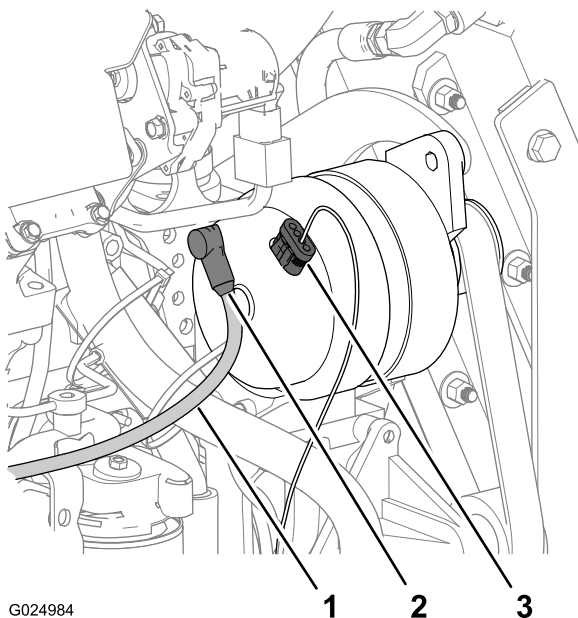

Figure 122
1. At the alternator, slide the boot off the terminal and stud at the back of the alternator (Figure 122).
3. Remove the 4-pin connector for the voltage-sense wire from the 4-pin connector on top of the alternator (Figure 122).
2. Connect the 4-pin connector for the voltage-sense wire to the 4-pin connector on top of the alternator (Figure 122).
3. Assemble the terminal of the charge wire onto the stud at the back of the alternator (Figure 122).
5. Align the boot of the charge wire over the terminal and stud (Figure 122).